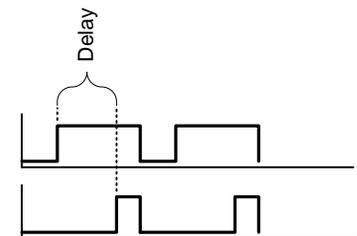

Figure 2 Gate-Off Delay
**Gate-Off mode:** The delay block senses both edges on the input. The rising edge is delayed but the falling edge occurs as soon as the input falling edge occurs. This mode is useful when playing from a keyboard where you want the notes to end as soon as the key is lifted. Figure 2 illustrates this. Note: in this mode if the gate goes low before the delay times out there will be no output. This is because in this mode the input gate going low causes the output to go low, and it has not gone high yet, hence no output.